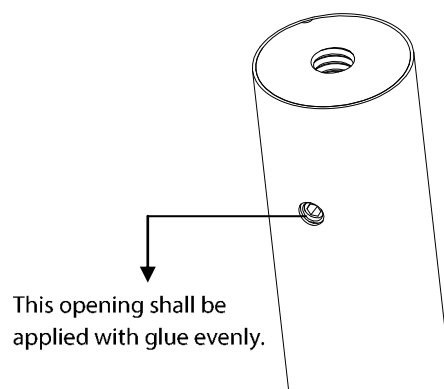

Figure 2-1
1. Open the glue and apply in the square opening of the arms as well as the one screw, as shown in figure 2-1. (This is to prevent screws from getting loose due to vibration after being used for a long time.)